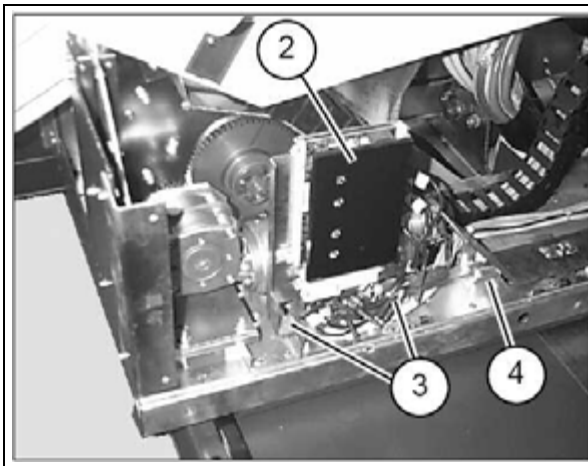
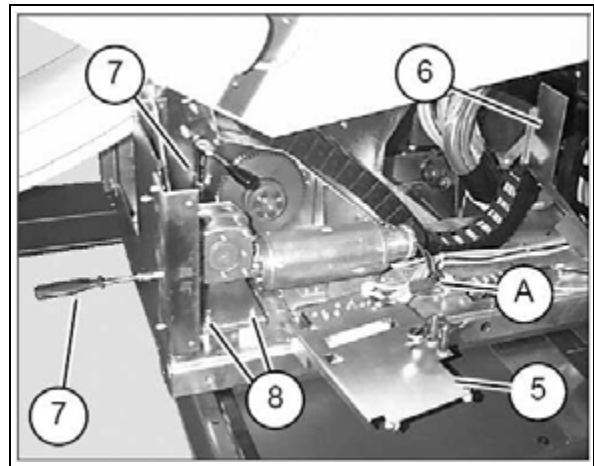

Fig. 31: D7 board
Fig. 32: Board D7_tilted
- Unplug the motor connector ((A/Fig. 32 / p. 64)).
- Remove board D7 ((2/Fig. 31 / p. 64)).
- Loosen the screws for the D7 board holder ((3/Fig. 31 / p. 64)) and tilt it forward ((5/Fig. 32 / p. 64)).
- Loosen the screw ((4/Fig. 31 / p. 64)) at the energy chain guide.
- Lift up the energy chain guide and secure it above ((6/Fig. 32 / p. 64)).
- Position the tools as indicated in the figure ((7/Fig. 32 / p. 64)) and loosen the screws, but do not remove them.